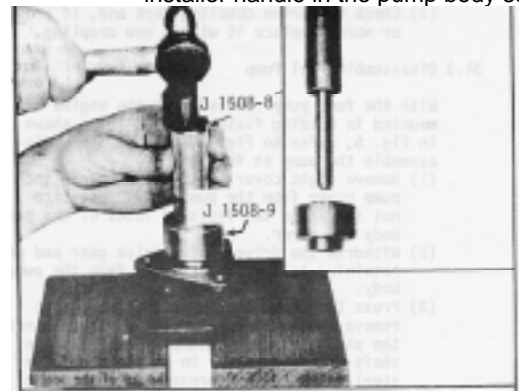
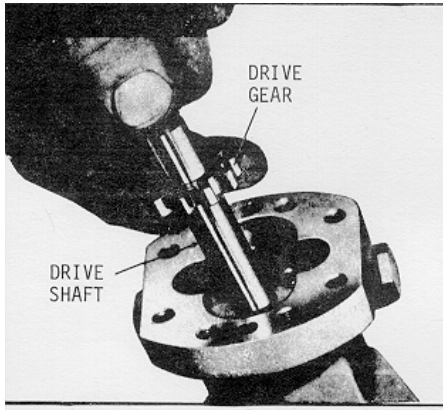

Fig. 9 Installing Outer Oil Seal
Fig. 10 Installing Fuel Pump Drive Shaft and Gear Assembly
- (c) Place the shorter end of the adapter J 1508-9 over the pilot and against the shoulder of the installer handle. Place the outer seal on the pilot of the installer handle with the lip of the seal facing the adapter. Then insert the pilot of the installer handle into the pump body and drive the seal in (Fig. 9) until the shoulder of the adapter contacts the pump body. Thus the oil seals will be positioned so that the space between them will correspond with the drain holes located in the bottom of the pump body.
- (2) Clamp the pump body in a bench vise (equipped with soft jaws) with the valve cavity up. Lubricate the outside diameter of the valve and place it in the cavity with the hollow end up. Insert the spring inside of the valve and the pin inside of the spring. With a new gasket in place next to the head of the valve plug, place the plug over the spring and thread it into the pump body. Tighten the 1/2"-20 plug to 18-22 ft/lb. (24-30 N.m) torque.
- (3) Install the fuel pump drive gear over the end of the drive shaft which is not squared (so the slot in the gear will face the plain end of the shaft). This operation is very important, otherwise fine score marks caused by pressing the gear into position from the square end of the shaft may cause rapid wear of the oil seals. Press the gear beyond the gear retaining ball detent. Then place the ball in the detent and press the gear back until the end of the slot contacts the ball.
- (4) Lubricate the pump shaft and insert the square end of the shaft into the opening at the gear side of the pump body and through the oil seals as shown in Fig. 10.
- (5) Place the driven shaft and gear assembly in